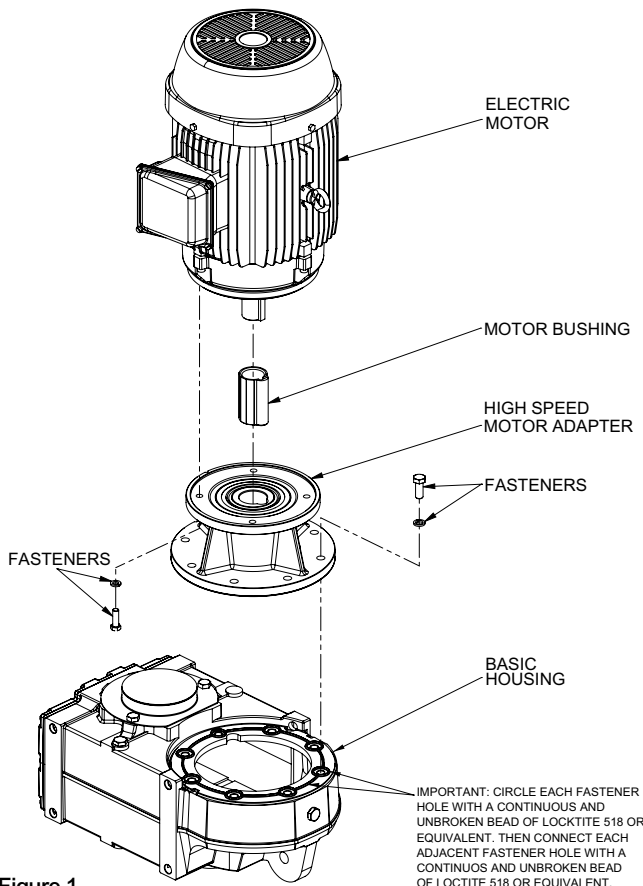

Figure 1
DRIVE ASSEMBLY INSTRUCTIONS — Figure 1
1. Place basic housing on a workbench so that high speed end is facing up as illustrated in Figure 1. If necessary, block housing so that it is stable and level.
7. Apply liquid gasket material (Loctite 518, Rexnord Part Number #10093848) furnished to flange face of basic housing as illustrated in Figure 1, Page 2.